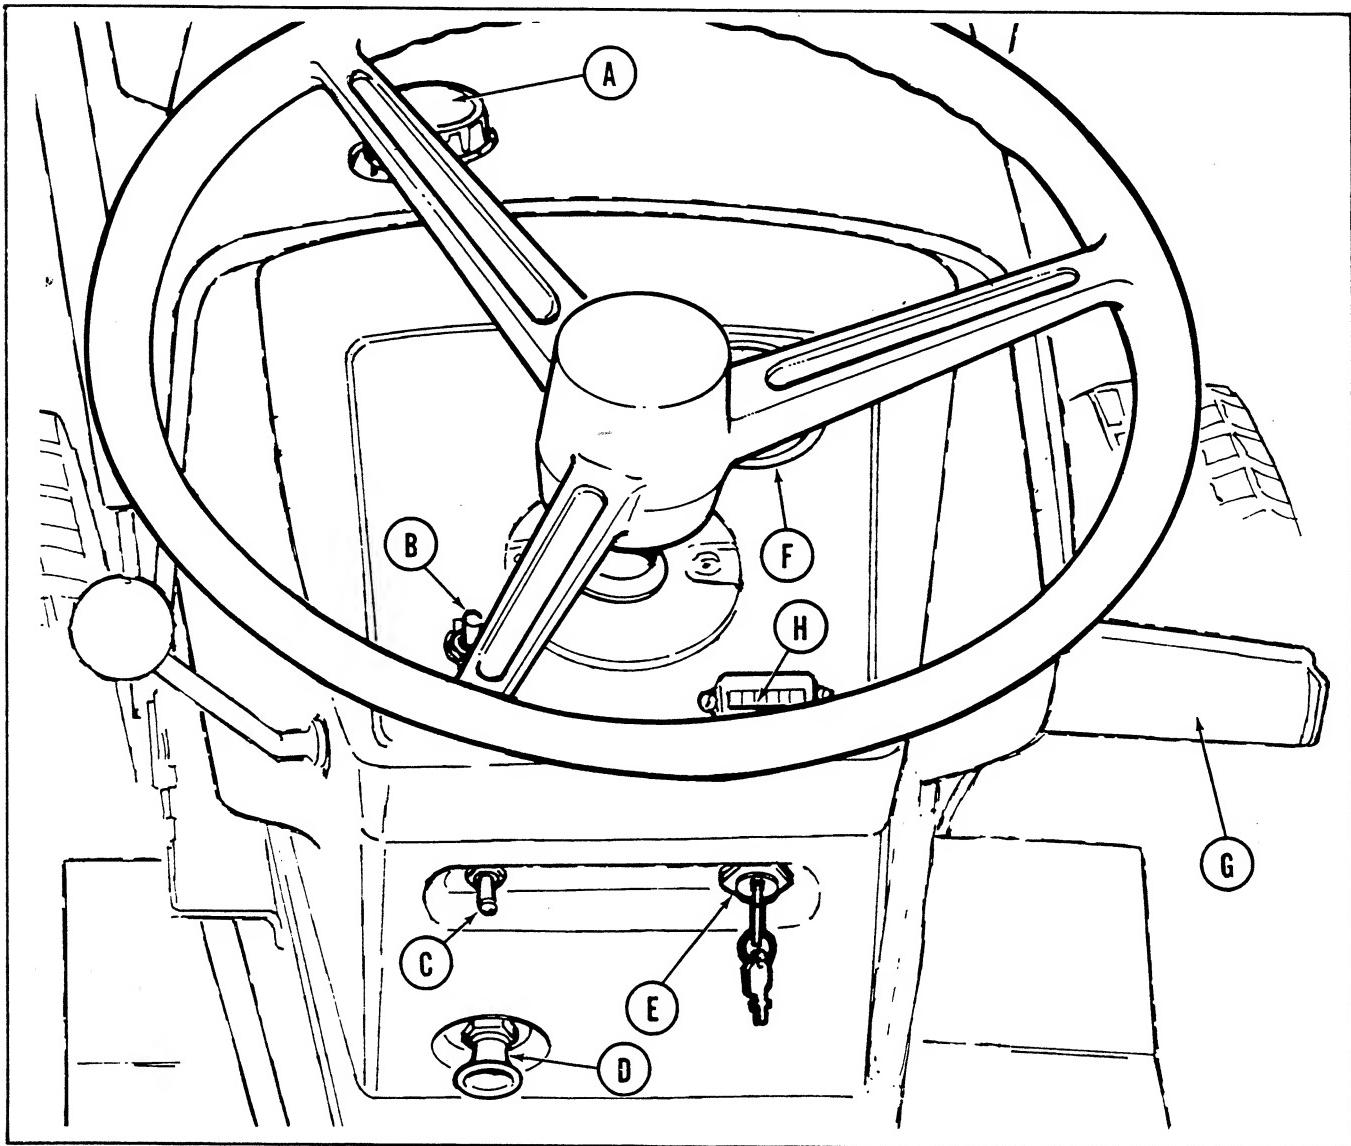

Figure 1. Tractor instrument panel as seen from the operators position on tractor seat.
Picture yourself seated on your tractor. Before starting the engine, lets learn how to understand and use the instruments and controls. The paragraphs referring to the instruments and controls are illustrated on figures 1 through 4.
IGNITION SWITCH: (Figure 1, item E) To actuate the ignition switch first insert the ignition key as shown. When the key is turned clockwise to the first position, the ignition is ON. In the ON position the lights, hourmeter, etc. will operate. Turn the key clockwise past the ON position to the START position to actuate the starter. THE TRANSMISSION SHIFT LEVER MUST BE IN THE NEUTRAL POSITION AND THE POWER TAKE OFF CLUTCH CONTROL LEVER (S) MUST BE IN THE DISENGAGED POSITION BEFORE THE STARTER WILL ACTUATE. Release the
CHOKE CONTROL KNOB: (Figure 1, item D) The choke control knob may be pulled out to increase the amount of fuel entering the engine for starting and cold weather warmup. When starting a cold engine in cold weather pull the choke all the way out. Some choke may be required to start the engine when the air temperature is above 70 degrees F. or while the engine is still warm from being recently run. After the engine has started, push the choke in slowly. In cold weather it may be necessary to leave the choke pulled out slightly for three or four minutes while the engine warms up. NEVER OPERATE THE ENGINE WITH THE CHOKE OUT AFTER IT HAS HAD SUFFICIENT
AMMETER: (Figure 1, item F) The dial pointer will move right to the "Charging" position when energy is being added to the battery and left to the "Discharge" position when energy is being drawn from the battery. The pointer will normally fluctuate to either side of the dial center.
HOURMETER: (OPTIONAL) (Figure 1, item H) The hourmeter is designed to record the number of hours the engine runs. However, since it is electrically operated, it will run any time the ignition switch is in the ON position even though the engine may not be running. The hourmeter is useful in keeping accurate maintenance records, and also a convenient way of telling how much time the tractor has been used on a particular job.
FUEL GAUGE AND FILLER CAP: (Figure 1, item A) The fuel gauge indicates the amount of fuel in the tank. Before adding fuel, shut off the engine and allow it to cool. To remove the fuel gauge and filler cap for adding gasoline, turn the fuel filler gauge-cap counter-clockwise. The fuel tank holds approximately 3 gallons - enough for about 3 hours of mowing. Use leaded or non-leaded "regular" grade automotive gasoline. **CAUTION: DO NOT ALLOW LIGHTED CIGARETTES, MATCHES, ETC., AROUND ANY OPEN GASOLINE CONTAINER. DO NOT OVERFILL; WIPE UP ANY SPILLED GASOLINE.**
LIGHT SWITCH: OPTIONAL ON 10 H.P. (Figure 1, item C). The switch should be moved up to the ON position to turn on the tractor lights. To prevent the lights from being turned on by unauthorized persons, the ignition switch must also be in the ON position for the lights to operate. To turn the light off, push the light switch down to the OFF position. **DO NOT OPERATE THE LIGHTS FOR LONG PERIODS OF TIME (MORE THAN 20 MINUTES) WHEN THE AMMETER READS DISCHARGE OR THE BATTERY MAY DISCHARGE ENOUGH SO IT WILL NOT START THE ENGINE.**
POWER LIFT SWITCH: (OPTIONAL) (Figure 1, item B) The power lift switch controls the electrically operated power lift unit. Push the toggle switch forward when you wish to raise a front center or rear mounted attachment. Pull it back toward you to lower the attachments. The power lift will stop and hold in any position when you release the toggle switch. The height indicator (Figure 6, item A) on the left side of the tractor can be used to determine what position the lift is in. The lift motor will ratchet when it has reached the end of its travel. Ratcheting is not harmful to the unit, but you should release the toggle switch as soon as ratcheting begins to prevent unnecessary wear. If the motor is allowed to ratchet for an extended period of time, a circuit breaker will open, disconnecting power to the lift motor. It will automatically reset after about a minute.
CLUTCH AND BRAKE PEDAL: (Figure 1, item G) Depressing the pedal will first disengage the tractor drive clutch. As you continue to depress the pedal, the brakes will be applied to stop the tractor.
The diagram printed on the tractor frame shows the location of each position. To shift the transmission into reverse or second, pull the shift lever back toward you, then push it all the way to the right or left into the desired position. To shift into first or third, push the shift lever forward and move it left or right all the way to the desired position. Do not attempt to move the shift lever unless the foot pedal (Figure 1, item G) is depressed and tractor motion is stopped. The shift lever must be in the neutral START position for the engine to start.